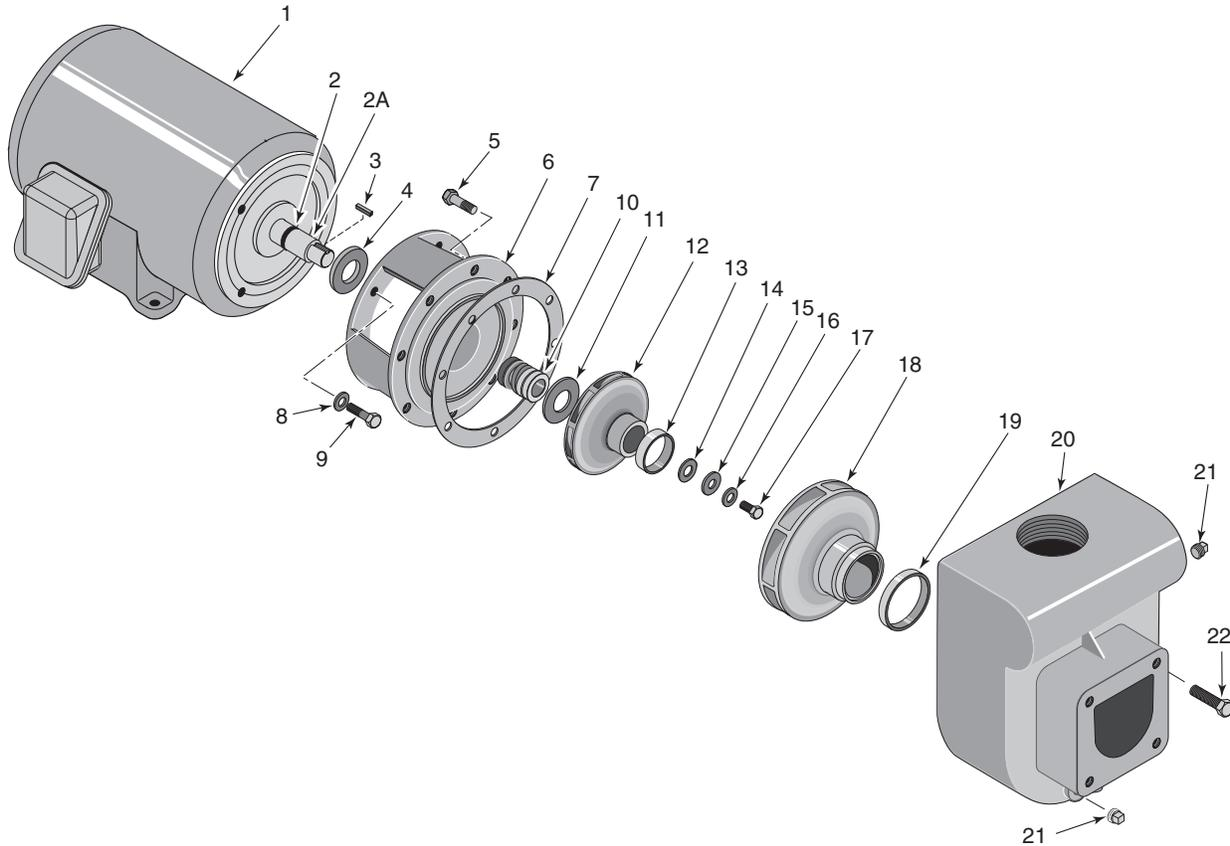

**Figure 6**
5. If seal does not seat after recleaning adapter/seal plate cavity, place a cardboard washer over polished face of seal and carefully press into place using a piece of 1" standard pipe as a press. (Figure 6).